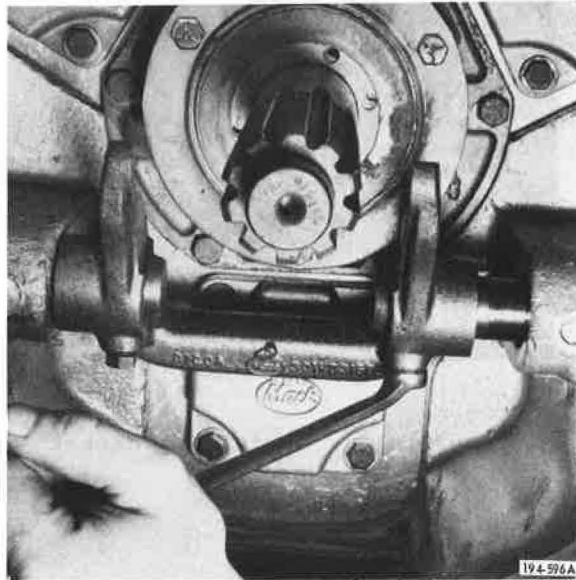

Figure 423. Installing Setscrew
43. Install setscrew and tighten to 14 to 24 lb. ft. torque. Refer to Torque and Tolerance Table, Item 1. See Figure 423.